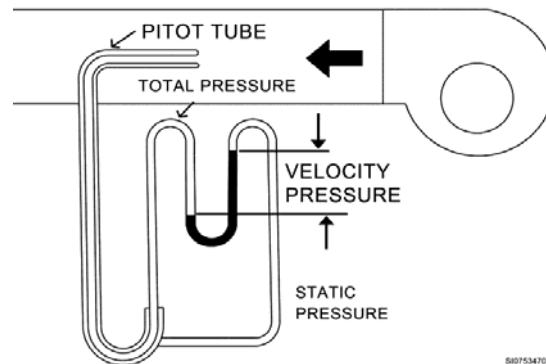

Figure 2-9. Fan outlet velocity.
Fan velocity pressure (VP) is the pressure corresponding to the fan outlet velocity (fig. 2-9). It is the energy per unit volume of the airflow. In this figure, notice a pitot tube is used to take the measurement. Also, notice that only one tube is placed inside the ductwork. Finally, take note that the tube is placed facing the opposite of the airflow and it is on the discharge side of the fan. The pitot tube will give you the difference between the total and static discharge pressure which is the fan velocity pressure.